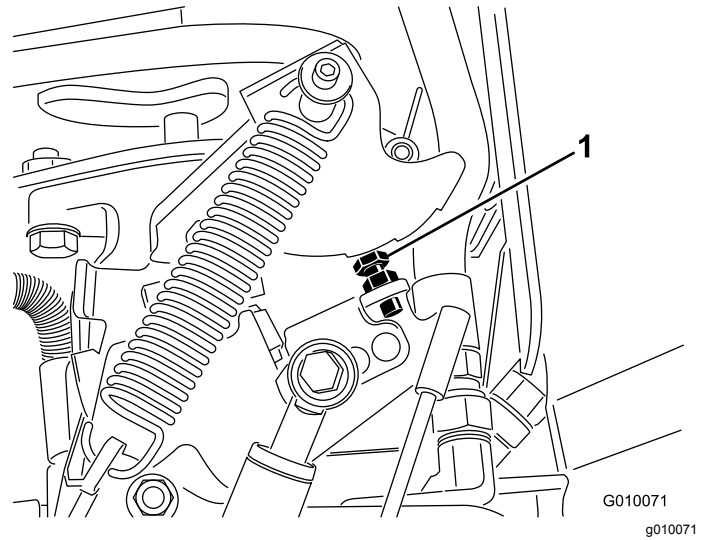

Figure 67
6. If an adjustment is needed, turn the pump stop bolt (Figure 67) closer to the stop plate to decrease hole spacing or turn the stop bolt away from the stop plate to increase hole spacing.